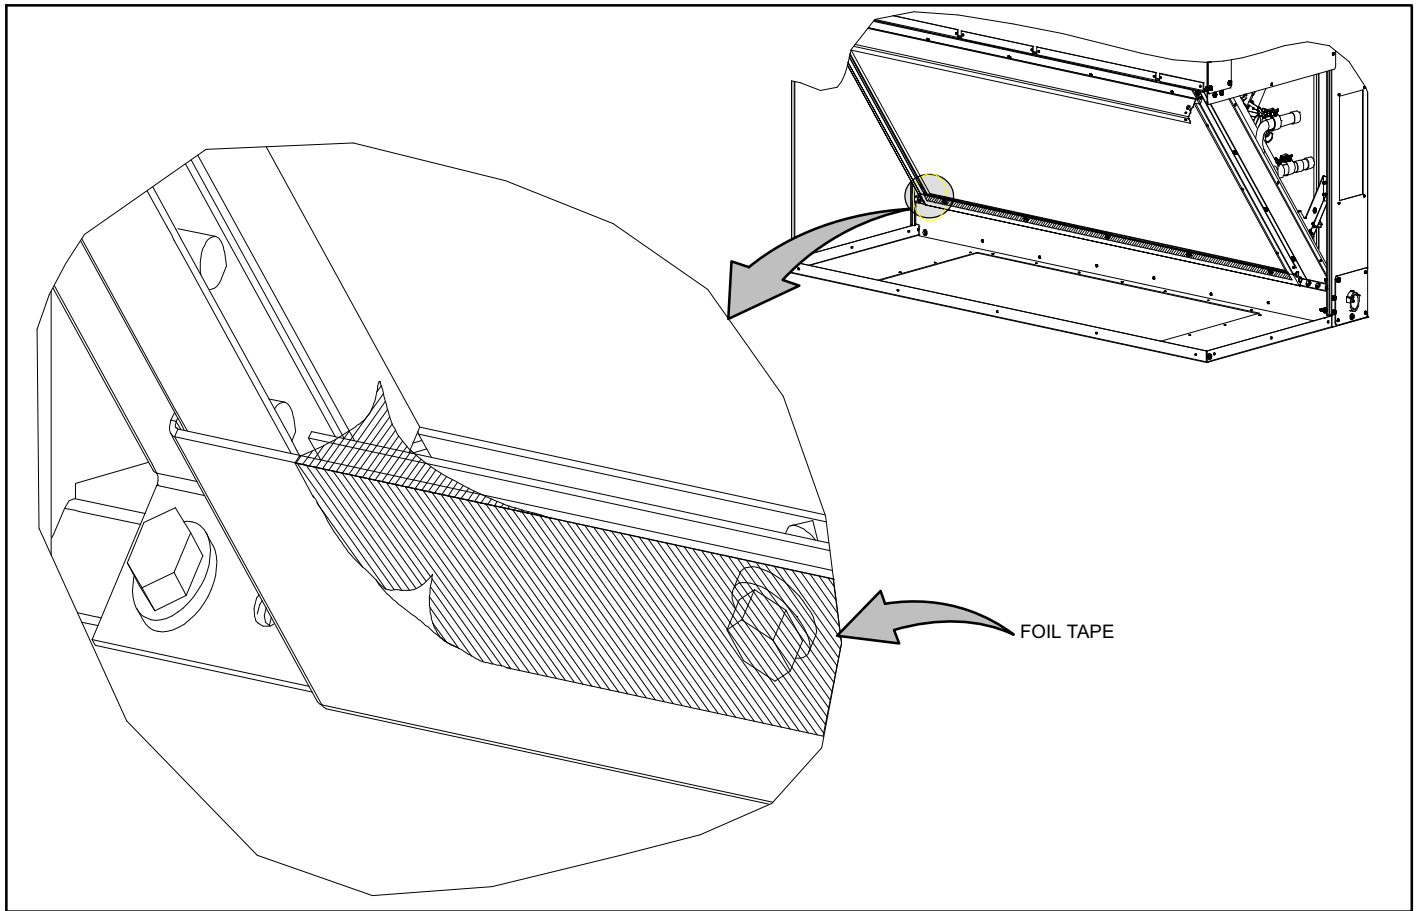

Figure 6. Applying Foil Tape to Drip Shield
11. Apply foil tape to entire length of drip shield to seal unused engaging holes (see figure 6).